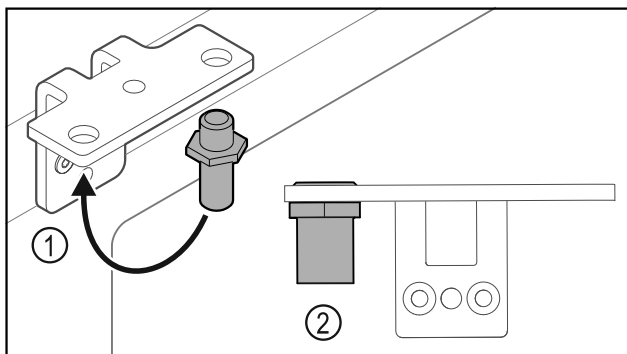

Fig. 30
- Put the pin back into the hinge Fig. 30 (1).
- Tighten the pin Fig. 30 (2) to a **torque of 12 Nm**.